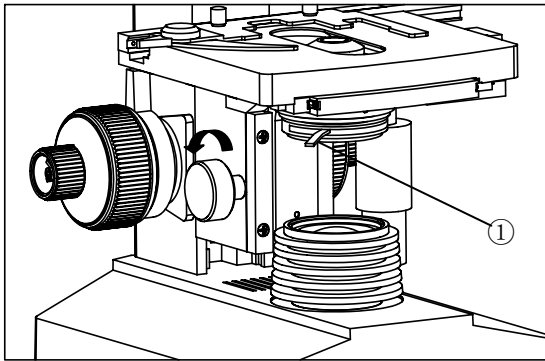

Fig.20
- The tight tension of the coarse focus knob has already been adjusted before leaving factory. If loosen (e.g. the stage slip down by its weight), please screw the intention adjustment collar③ to the right position by the supplied spanner.
3.3.4 Condenser Adjustment (Fig.20)
3.3.5 Aperture Iris Diaphragm Adjustment (Fig.20,21)